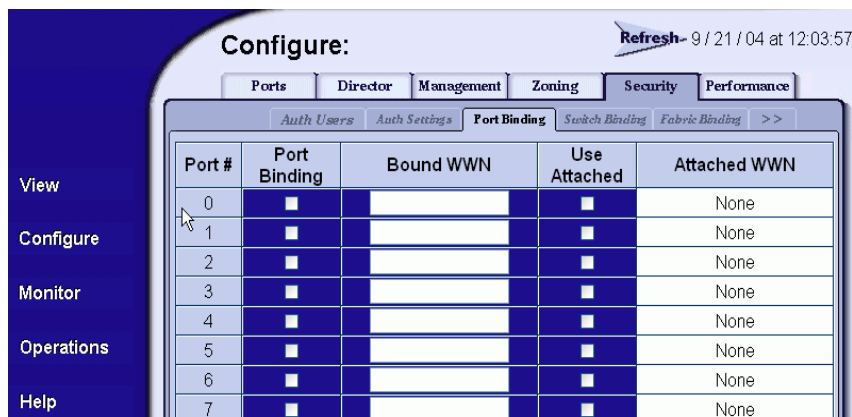

Figure 2-76 Configure Panel (Security Page with Port Binding Tab)
1. At the *Configure* panel, click the *Port Binding* tab. The *Security* page displays with the *Port Binding* tab selected (Figure 2-76).